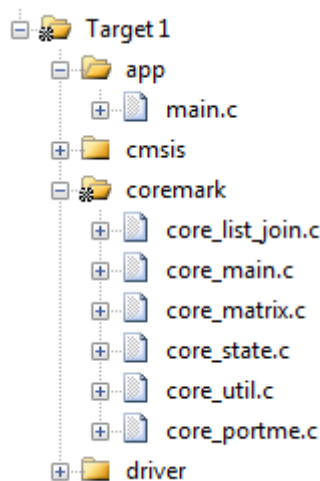

Figure 2 An example project with CoreMark source files on µVision IDE
- 2) Add CoreMark source files (see Figure 2) in your Makefile or preferred IDE (GCC, IAR embedded workbench IDE, Keil µVision IDE).